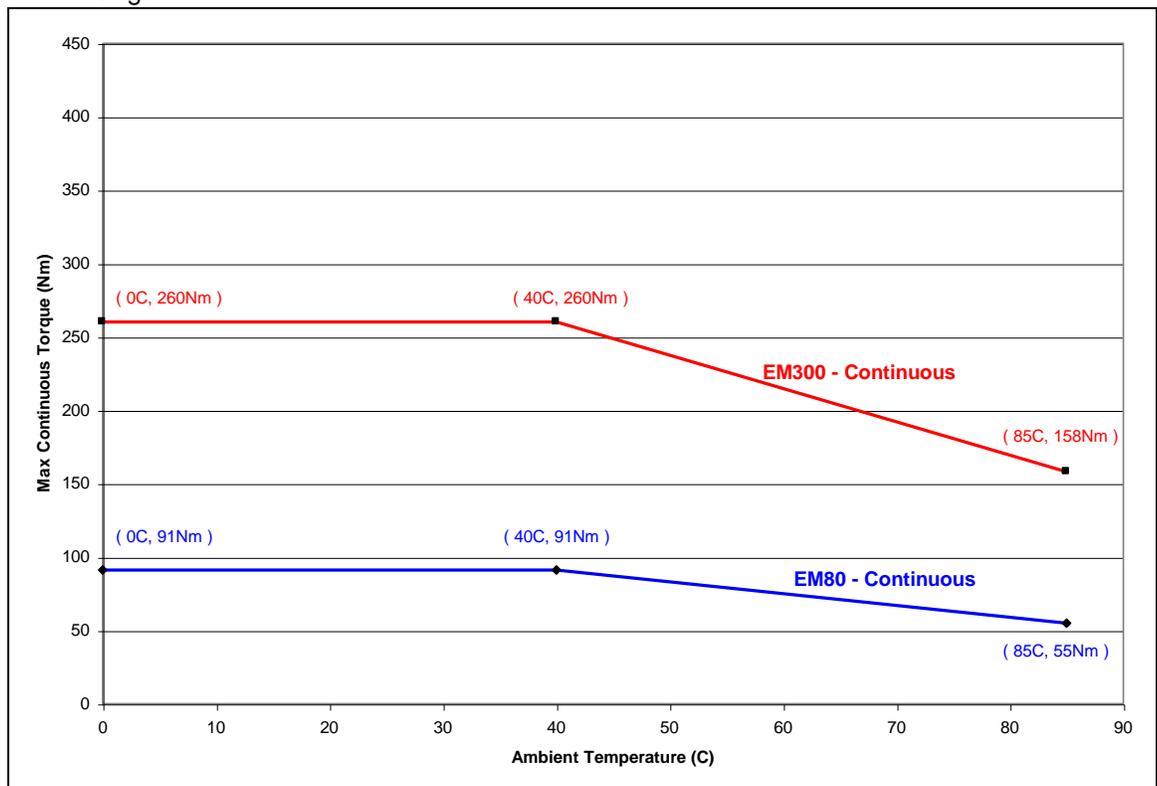

Figure 4-2. Ambient Temperature vs Torque
**Note 1**—The net available torque is the torque that is available for acceleration. This is the maximum torque of the actuator after correction for temperature (refer to the graph in Figure 4-2) minus the torque required to move the rack and overcome friction.